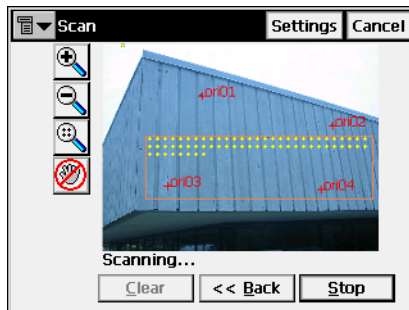

Figure 6-55. Scanning with Images
- View the scanning in progress. As the total station measures points within the pre-defined area, each point will be displayed on the image (Figure 6-55). If necessary, click **Stop** to stop the scan.